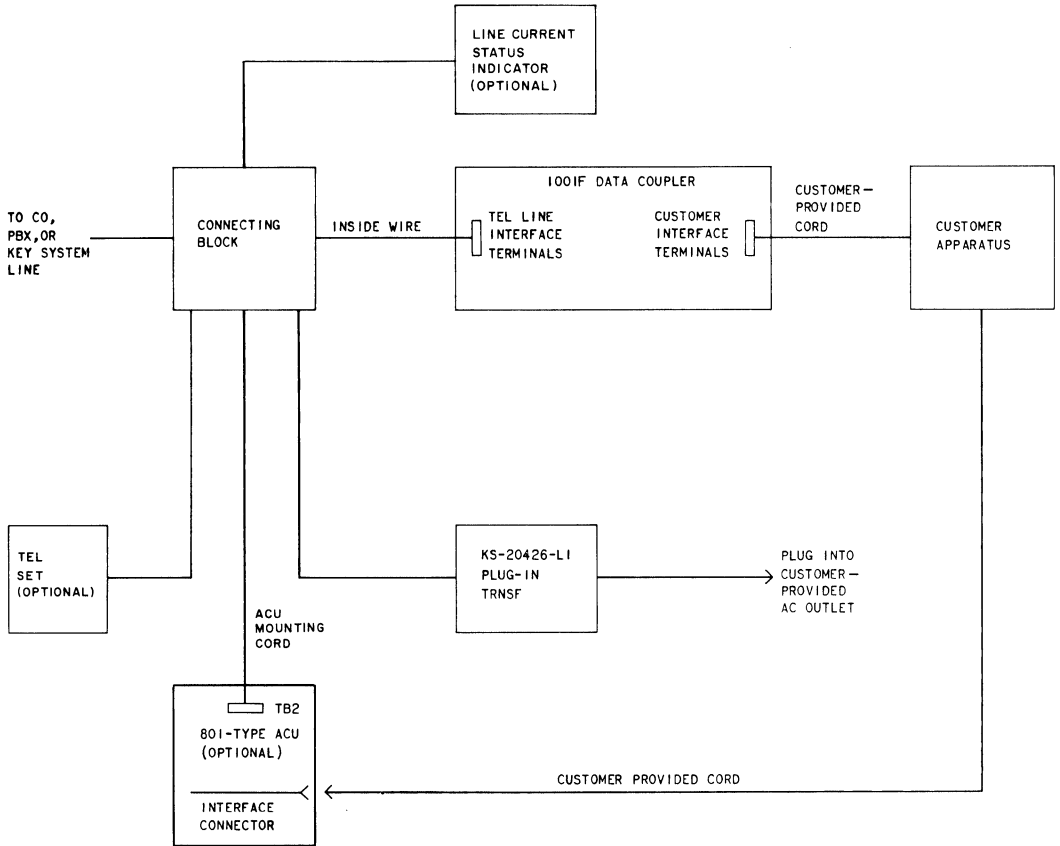

Fig. 14—Block Diagram of Typical 1001F Data Coupler Installation
- (1) For all analog modems, Type II requirements should be specified.
- (2) For all other modems, requirements based on speed of modem (same as for switched DATA-PHONE service) should be specified.
- (3) If the type of modem is known to be similar to a Bell System DATA-PHONE data set, use the requirements for that particular data set.
4.03 Installation of the coupler should comply with general practices to ensure an orderly station arrangement. Information relating to selection of type of connecting block and electrical code requirements is given in Section 590-010-200. See Fig. 14 for typical interconnection block diagram.